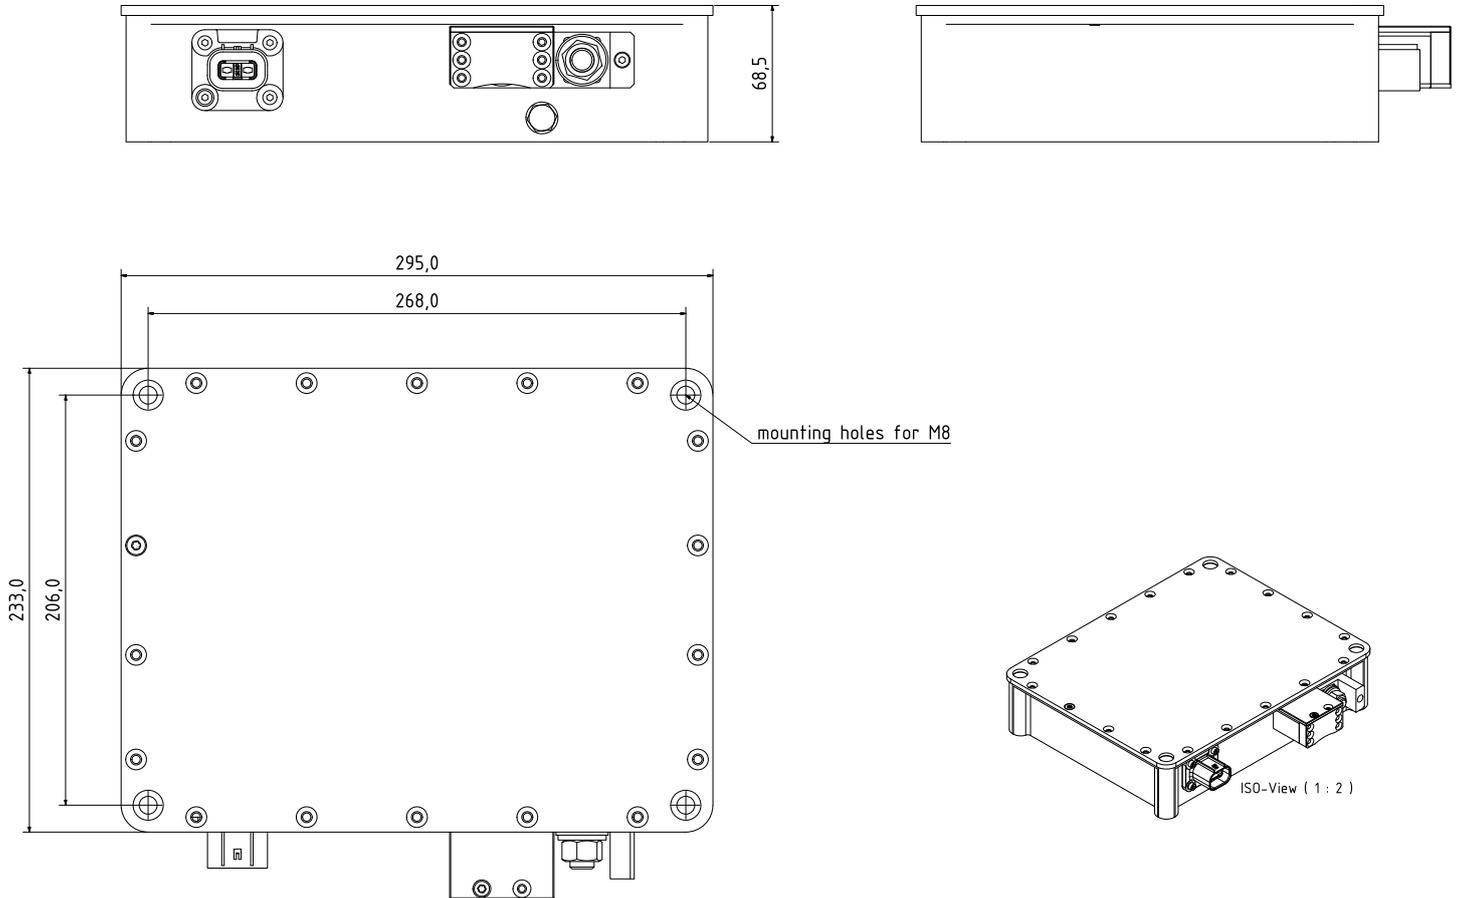

Figure 8.1: Dimensions
- M8 (Below the output connections, see fig. 8.1)